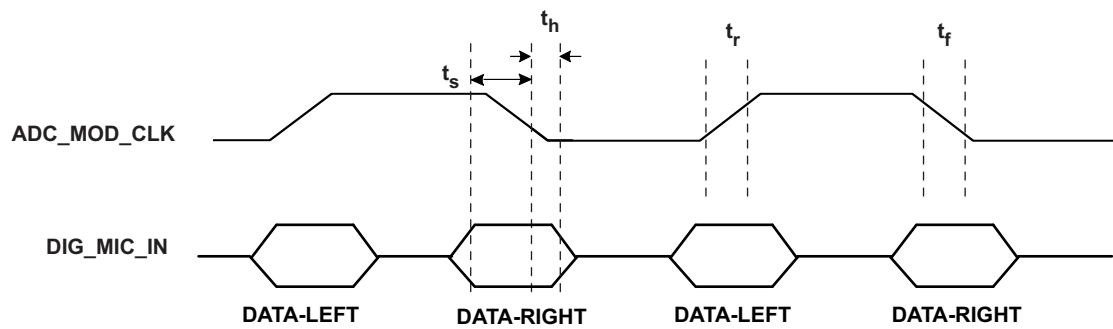

**Figure 4. DSP Timing in Slave Mode**
**8.14 DSP Timing in Slave Mode (see Figure 4)**